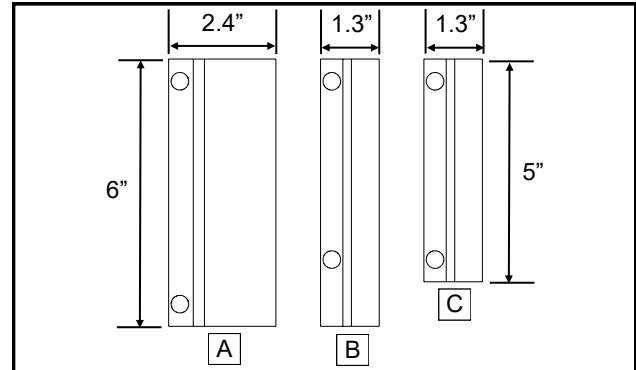

Fig. 2.1a (3 flex brush sizes included in seal kit)
2.1 Install (2) 6" long flex brushes (item "A" in fig 2.1a) to the underside of the left floorboard mount, using (4) plastic tree clips. See figures 2.1a and 2.1b. *Note: the (2) brushes on the floorboard mount do overlap.*
2.3 Per figures 2.1a and 2.3, install flex brushes as shown on the right floorboard (one "A" brush and one "B" brush). Using the hole pattern in the flex brush as a guide, drill two holes per side (7/32" diameter) thru the sheet metal floorboard. *Note: It is recommended that a spare piece of metal is placed behind where you are drilling to ensure no damage is done to the vehicle.*
2.4 Per figures 2.1a and 2.4, install flex brushes as shown around the differential lock lever found on the left fender (two "C" brushes). Using the hole pattern in the flex brush as a guide, drill two holes per side (7/32" diameter) thru the sheet metal fender.